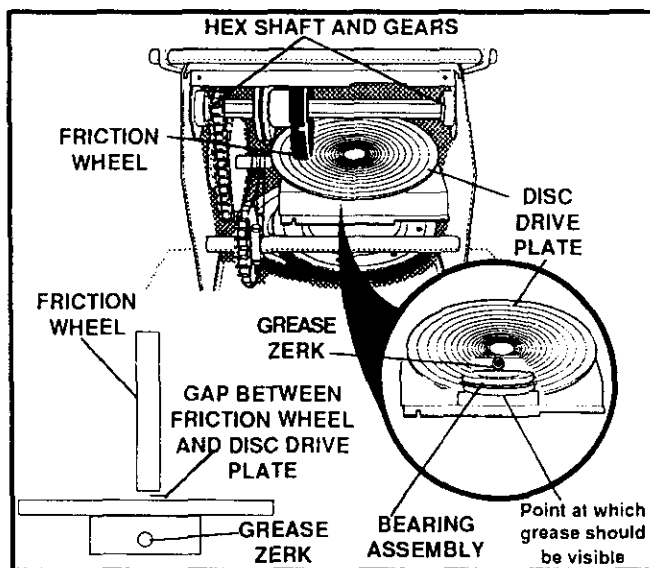

FIG. 3
- Disc Drive Plate - Using a hand grease gun, lubricate with a Hi Temp EP Moly grease, zerk located beneath the disc drive plate (See FIG. 3 inset) every 25 hours and at the end of the season and/or before storage. To grease zerk, turn disc drive plate clockwise by hand until zerk is clearly visible at front center. **DO NOT** overfill or allow grease to come in contact with the disc drive plate or friction wheel or damage will result. Fill zerk only until grease becomes visible below bearing assembly located under grease zerk. See Lubrication Chart in this section.
- Hex Shaft and Gears - Hex shaft and gears require no lubrication. All bearings and bushings are lifetime lubricated and require no maintenance (See FIG. 3).
**NOTE:** For storage, the hex shaft and gears should be wiped with 5W-30 motor oil to prevent rusting (See FIG. 3).